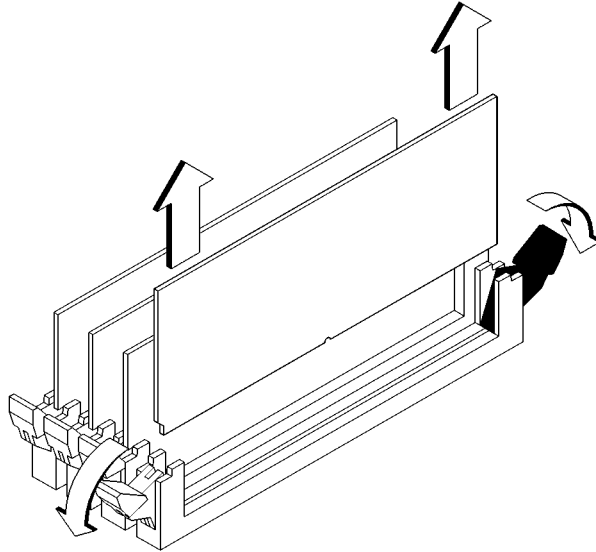

Figure 44 **Removing a Memory Module**
- 3 To remove a memory module, push the ejector tabs on each side of the module. Lift the memory module up and out of the connector and place it on a static-free surface. Figure 44 shows how to remove a memory module.